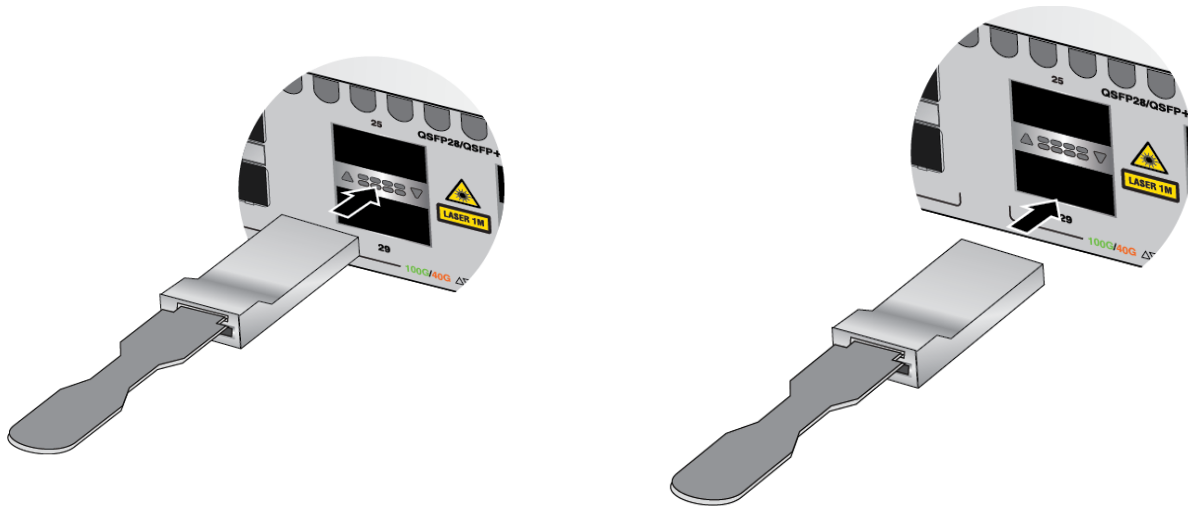

Figure 119. Installing 100Gbps QSFP28 Transceivers in Base Ports 25 to 37
- ❑ 100Gbps QSFP28 transceivers for base ports 25 to 37: refer to Figure 119.